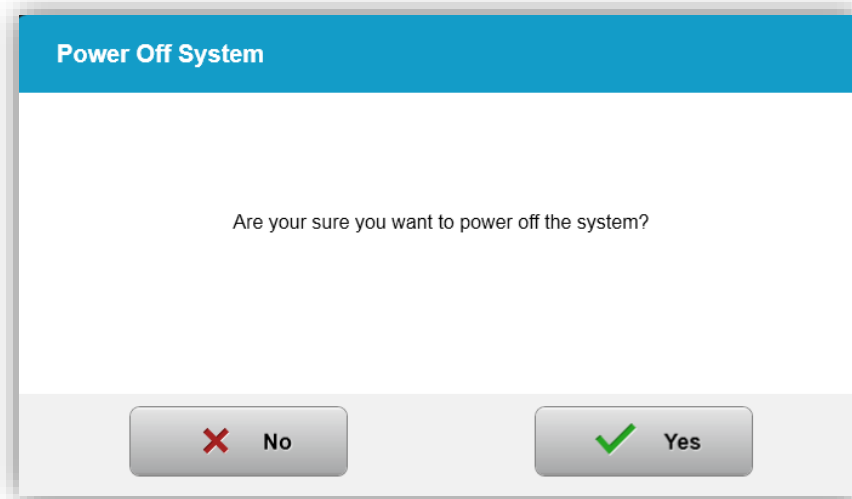

Figure 3-49. Confirm “Power Off”
- Confirm powering off system by selecting “Yes” as shown in Figure 3-49.